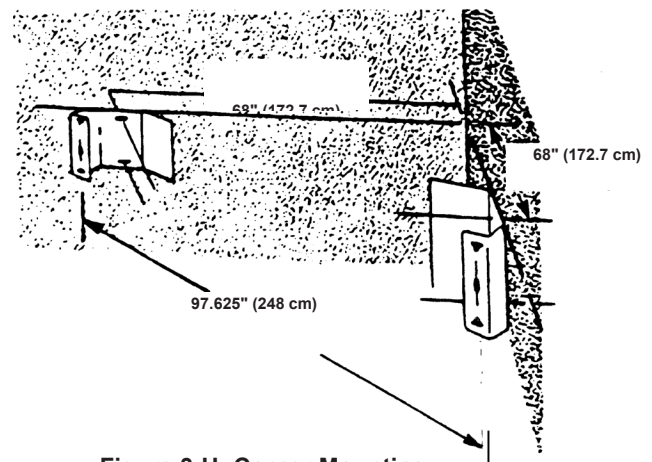

Figure 3-H: Corner Mounting
- 5) When you are sure all marks are accurate, drill mounting holes 2.5 inches (6.4 cm) deep, install mounting hardware in holes, and mount brackets on hardware as shown in Figure 3-G. Make sure all hardware is secured to 10 in/lbs torque. Do not overtighten concrete inserts.